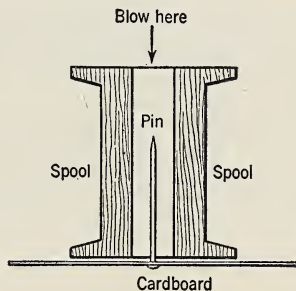

FIG. 169. Bernoulli effect.
11. Cut a sheet of paper about 2 in. square. Stick a pin through the center of the paper and place it on one end of a spool, as shown in Fig. 169. Why is it impossible for you to blow the paper away by blowing through the spool?